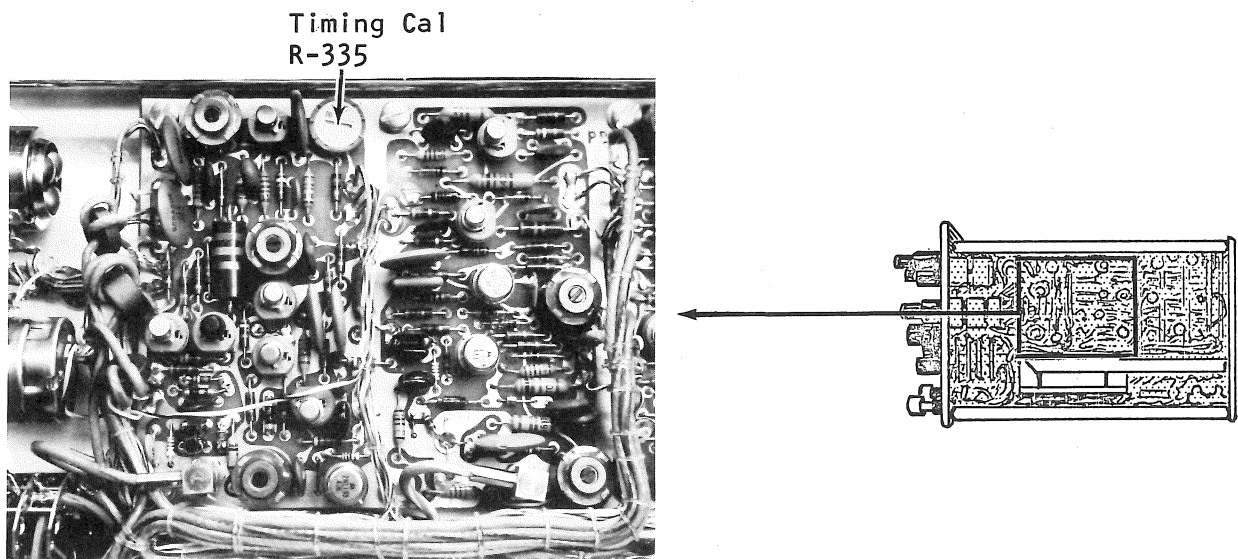

Figure 5-19
5. Adjust the TIMING CAL R335 (see figure 5-19) for 1 time mark per division over the middle 8 centimeters.